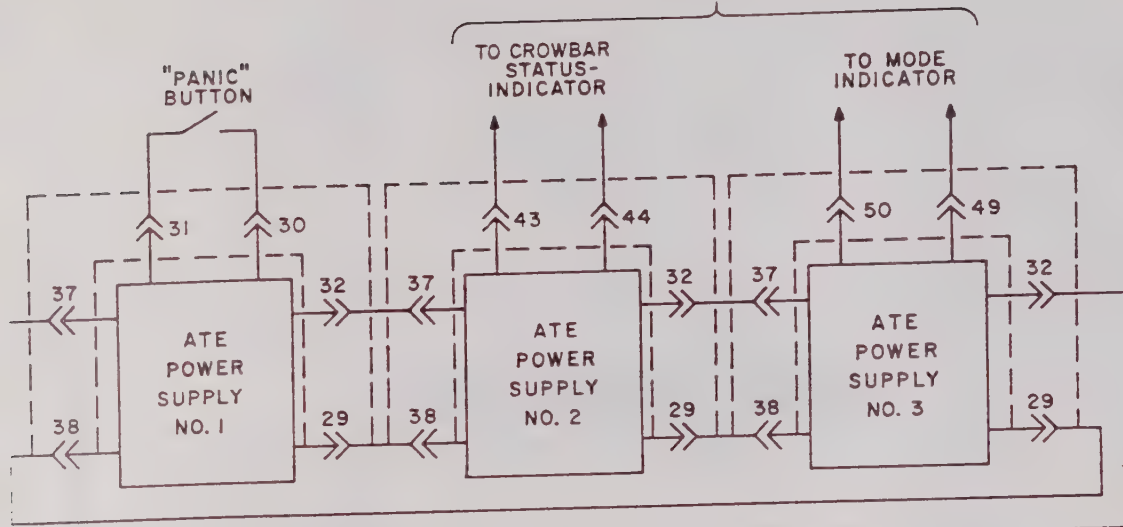

FIG. 3-19 MULTIPLE POWER SUPPLY FAULT DETECTION LOOP.
- 3-92 In applications where several power supplies are used it is often necessary to shut down **all** power supplies if a malfunction on a **single** supply forces its shut-down. Sometimes, a "PANIC BUTTON" arrangement is desired, where **all** system power supplies can be shut-down with a single manual switch or a common signal from a controller. ATE power supplies are ideally suited for multi-unit operation since all necessary crowbar control circuit connections are terminated at the rear PROGRAMMING CONNECTOR (PC-12). The crowbar control connections in a multi-unit application can be externally wired to form a closed loop fault-detection circuit as shown in FIG. 3-19. Although only three ATE power supplies are shown, the control loop may be extended to include as many ATE power supplies as are required.